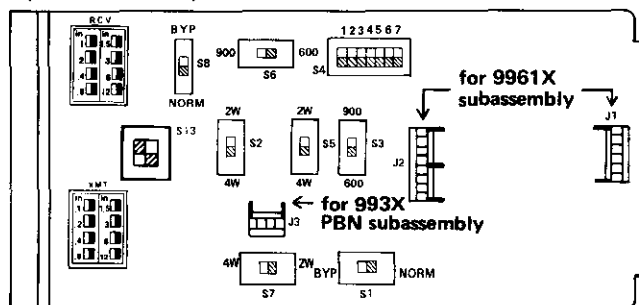

figure 2. Switch locations
3.05 All options in the 6461 are selected via slide or DIP switches located as shown in figure 2. Table 2 lists these options and indicates the option choices, which are described below.